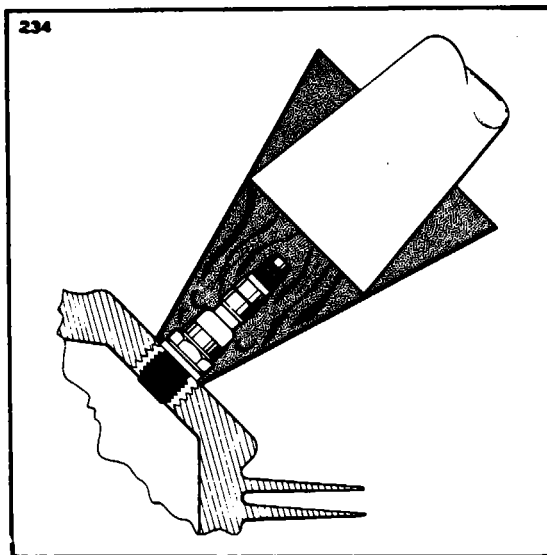

Figure 8A-31. Removing Spark Plug Frozen to Bushing
d. Removal of seized spark plugs in the cylinder may be accomplished by application of liquid carbon dioxide by a Conical metal funnel adapter with a hole at the apex just large enough to accommodate the funnel of a CO₂ bottle. (Refer to Figure 8A-31.) When a seized spark plug cannot be removed by normal means, the funnel adapter is placed over and around the spark plug. Place the funnel of the CO₂ bottle inside the funnel adapter and release the carbon dioxide to chill and contract the spark plug. Break the spark plug loose with a wrench. A warm cylinder head at the time the carbon dioxide is applied will aid in removal of an excessively seized plug.